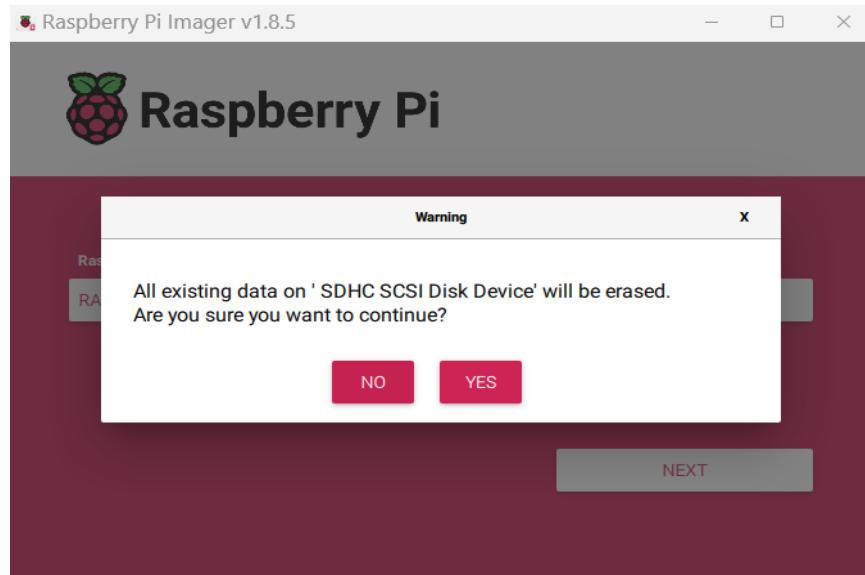

Figure 32. Select YES to create the image.
5. When settings are complete, select Save and you will be prompted to create the image (Figure 32).